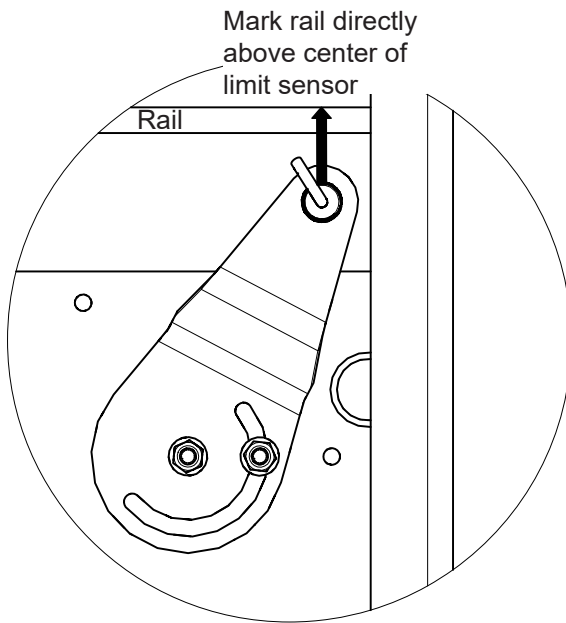

Figure 11. Mark Limit Sensor Location on Rail
3. Mark location of the center of the dual limit sensor on the drive rail (Figure 11).